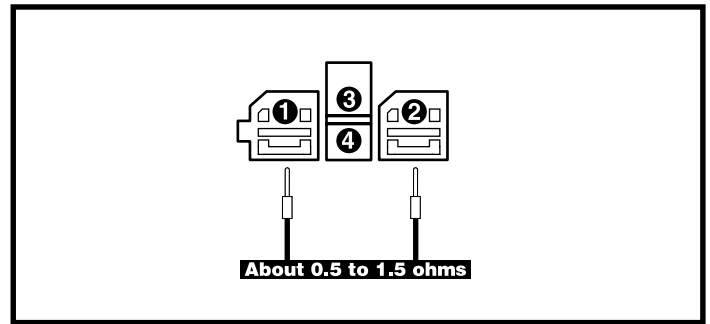
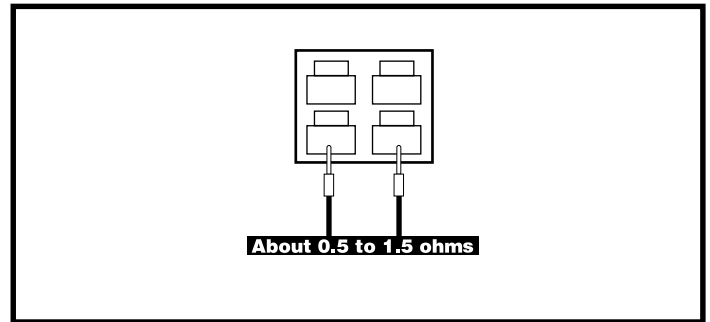
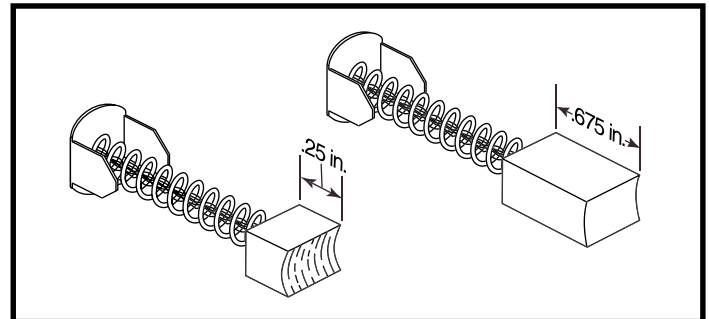

Figure 22. Connector 13b
Figure 23. Connector 8a
Figure 24. Motor Brushes
4. Unplug connector 13b from the power module (4). **See diagram 2.**
5. Measure resistance across pin 1 and pin 2 of connector 13b. **See figure 22.**
- If your multimeter indicates about 0.5 — 1.5 ohms, then replace the power module (4) and retest the system.
7. Measure resistance across pin 1 (red) and pin 2 (black) on connector 8a. **See figure 23.**
- If your multimeter indicates about 0.5 — 1.5 ohms, then replace the left motor interface harness (13) and retest the system.
8. Remove the motor brushes from the left motor and inspect them. **See figure 24.**
- If the motor brushes are not worn below 0.25 in. or are not physically damaged, then replace the left motor (8) and retest the system.